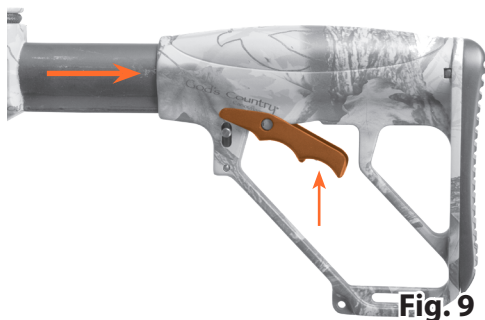

Fig. 9
1. Press the lever on the bottom of the butt stock (Fig. 9).